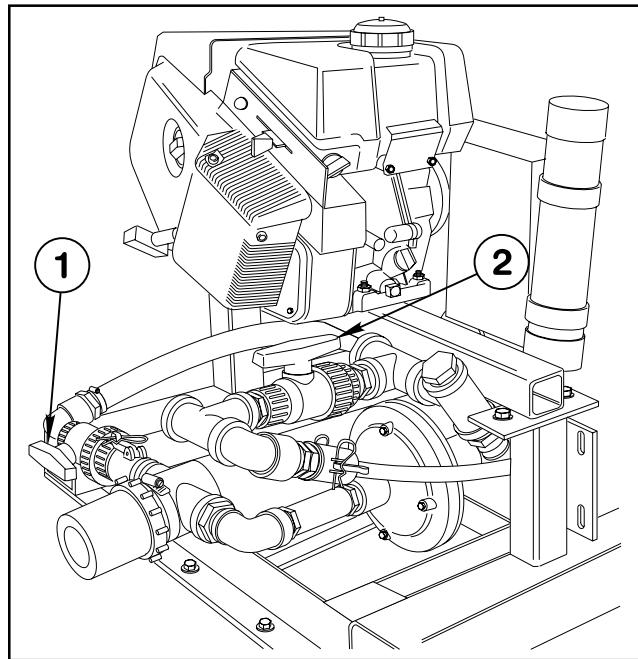

FIG. 2
**SUCTION LINE VALVE:** Opens and closes the Suction Line, which draws spray solution from the Tank to the Pump. The Valve is OPEN when the lever is positioned as shown in FIG. 2.
3. OPEN the Suction Line Valve and the Agitator Valve. See FIG. 2 on page 6.
3. OPEN the Suction Line Valve and Agitator Valve. See FIG. 2 on page 6.